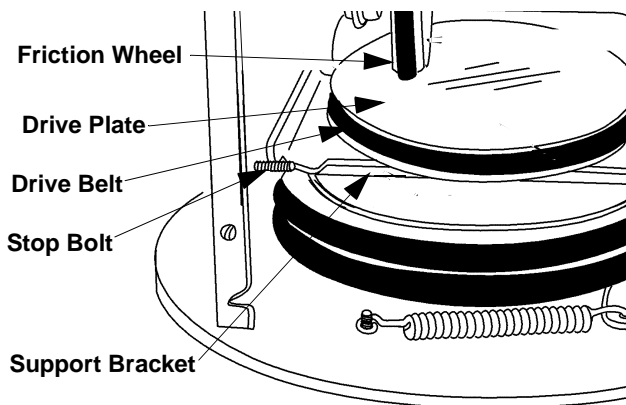

Figure 18
- Back out the stop bolt until the support bracket rests on the auger pulley. See Figure 18.
- Slip the belt between the friction wheel and drive disc. See Figure 18. Remove and replace the belt. Reassemble following the instructions in reverse order.
**NOTE:** The support bracket must rest on the stop bolt after the new belt has been assembled. See Figure 18.
- Remove the six screws from the friction wheel assembly (three from each side). Remove the friction wheel rubber from between the friction wheel plates. See Figure 18